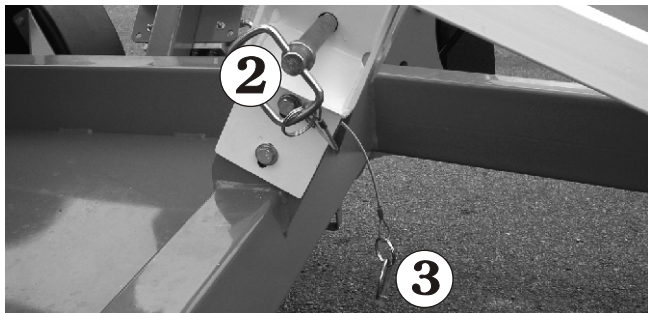

Figure 10.3 - Boom Lock Pin
3. Insert the boom pin **2** in place (see Figure 10.3) and ensure the pin keeper **3** is correctly locked in place through the boom pin.